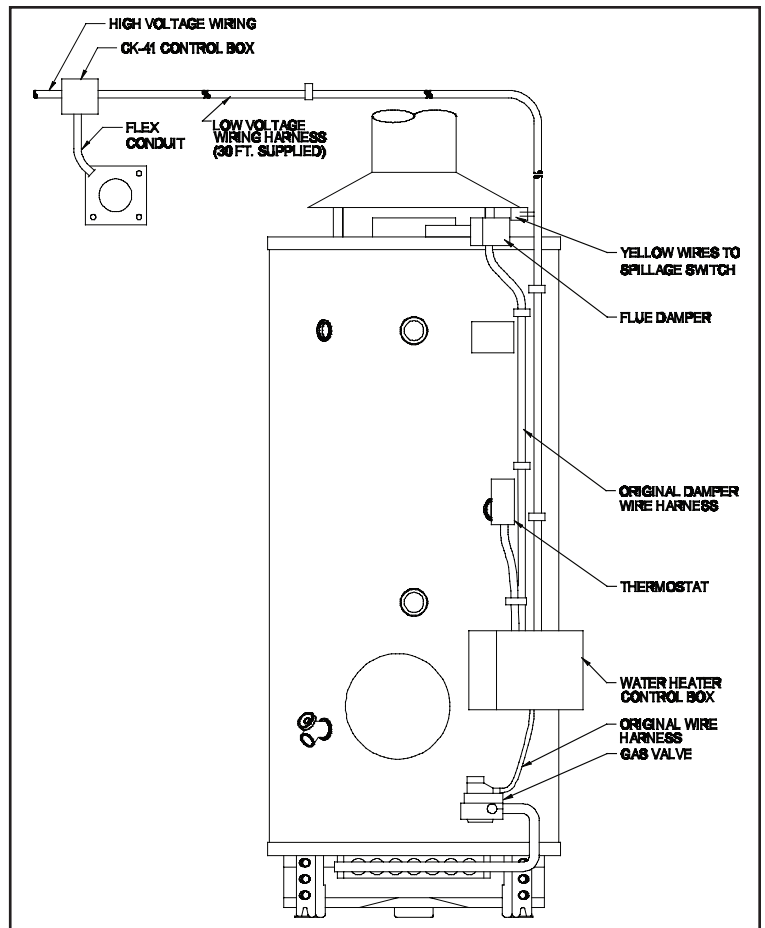

Figure 9
6. Run the harness supplied along the water heater jacket and support with the clamps provided. (See Figure 9)